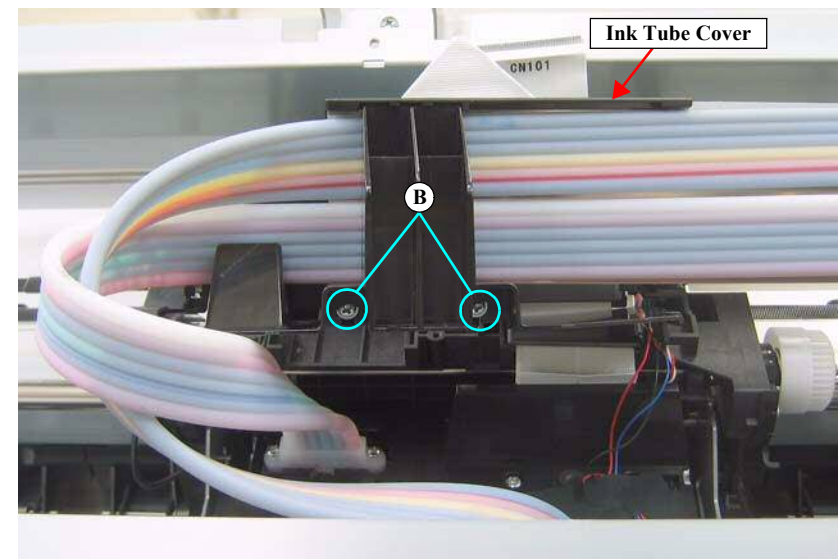

Figure 4-165. Removing the Ink Tube Cover
17. Remove the two screws that secure the Ink Tube Cover, and remove the Ink Tube Cover. *See Figure 4-165.*